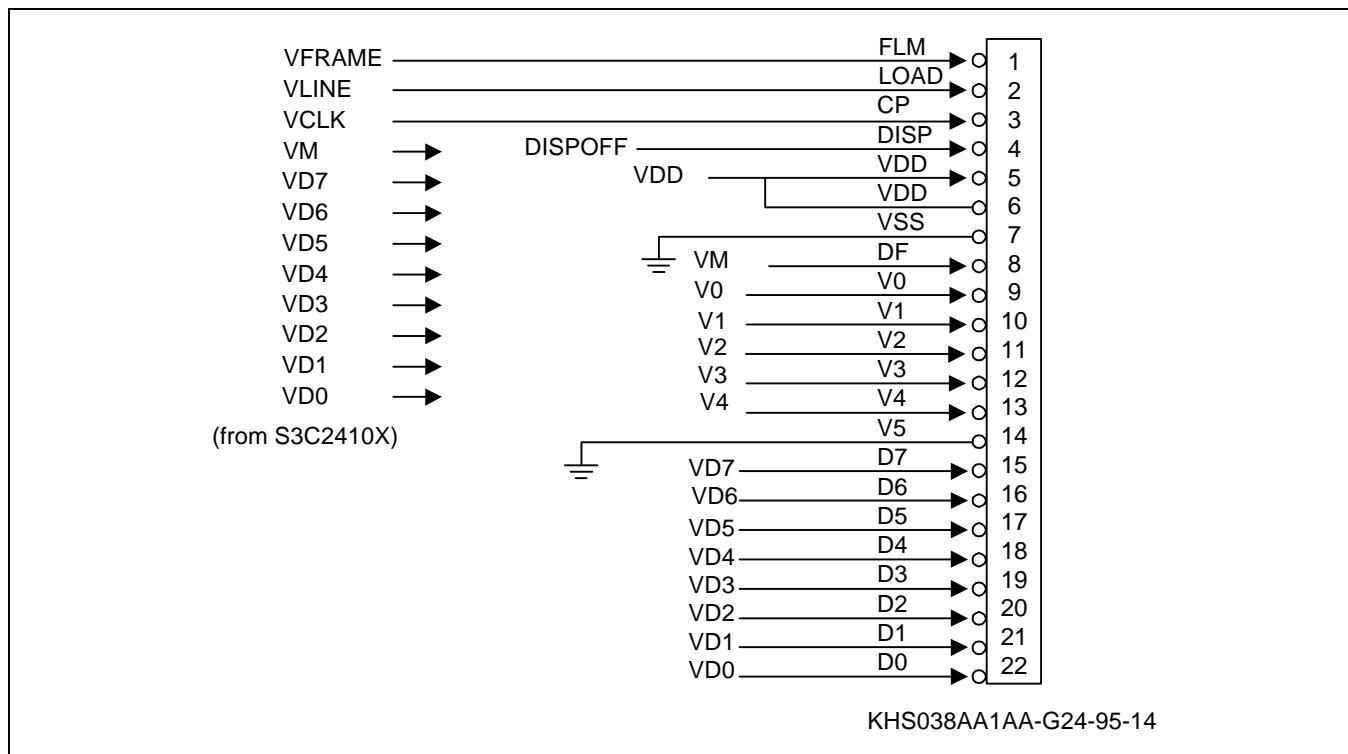

Figure 4-16. KHS038AA1AA-G24 Connection with S3C2410X (256 Color STN LCD)
- KHS038AA1AA-G24 (256 color STN LCD) from KYOCERA Co. (refer to Figure 4-16)